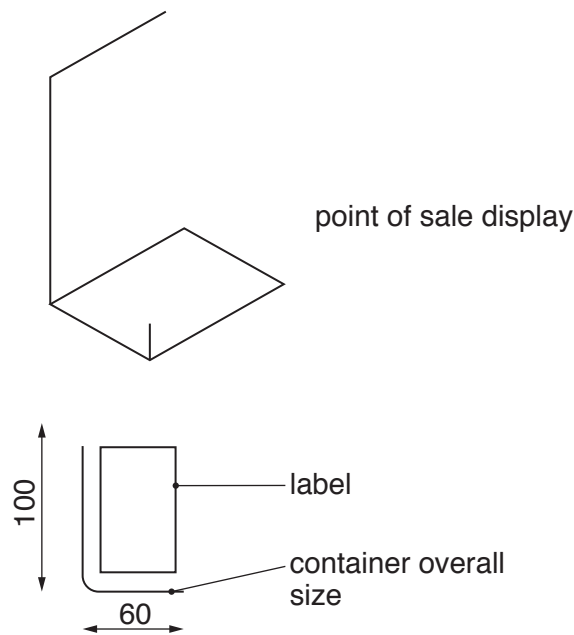

Fig. 9.1
- 9 Fig. 9.1 shows an incomplete idea for a suntan lotion container and a point of sale display.